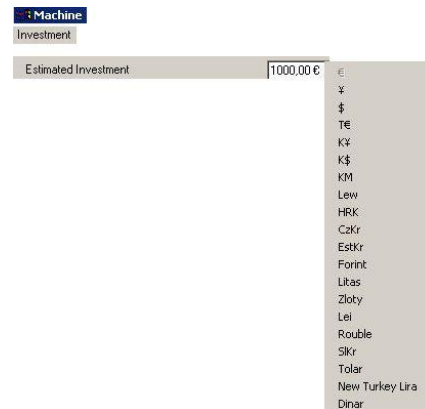

Figure 10: Example for Use of Currency Units
- 2) Upon making the setting, save it and close Process Engineer. The settings made become operative only upon restart of Process Engineer. Please refer to the Figure 10.